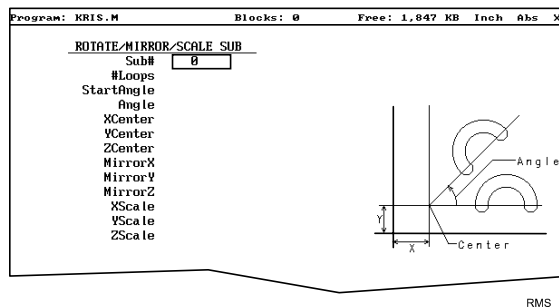

Figure 4-29, ROTATE/MIRROR/SCALE SUB Graphic Menu
2. Press **RMS (F6)**. The **ROTATE/MIRROR/SCALE SUB** Graphic Menu prompts for labeled values. Refer to **Figure 4-29**.